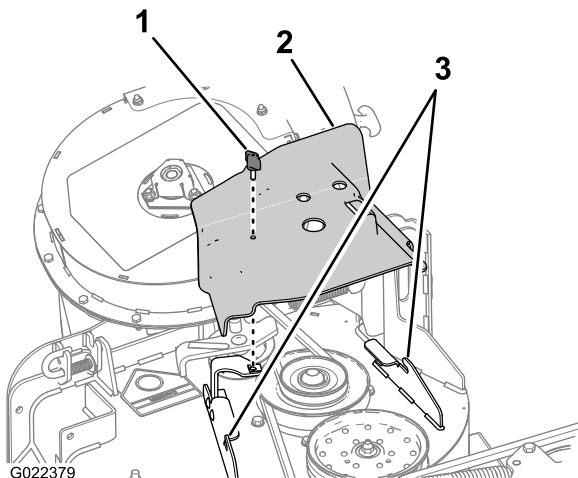

Figure 3
1. Remove the thumbscrew that secures the belt cover (Figure 3).
2. Move the cover outward until the edge of the cover clears the hooks in the deck flanges (Figure 3).